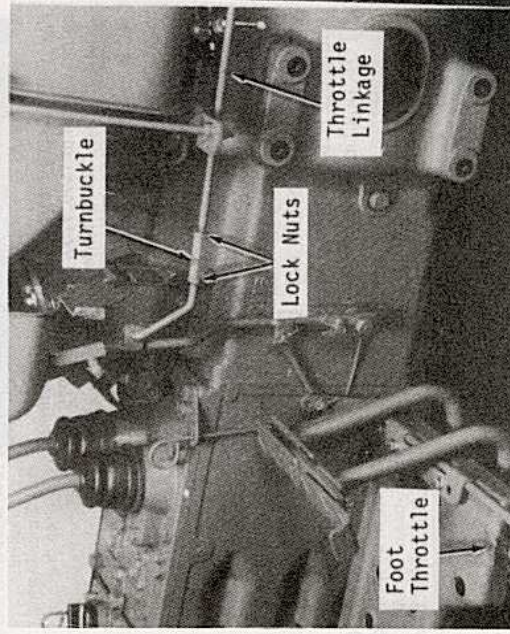

Fig. 126—View of throttle linkage typical of 1310, 1500, 1510, 1700, 1710, 1900, 1910 and 2110 models. Refer to text for adjustment procedure.
66. To adjust engine speed, first start engine and operate until warm. Move throttle lever to slow idle detent position. Engine speed should be 750-850 rpm on all models. If low idle speed is incorrect, loosen locknuts and turn throttle control rod turnbuckle (Fig. 126) as required until correct speed is obtained.